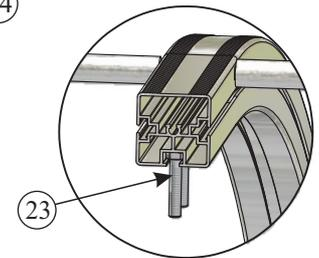
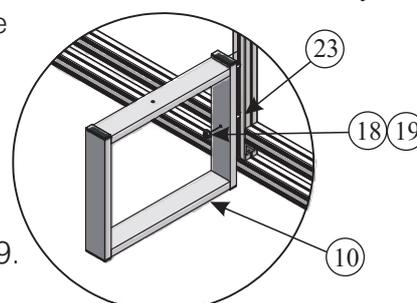

Figure 8.
Figure 9.
5.) The shelter now needs to be tilted into the upright position (Figure 8). The safest way to do this is to have one person support each sideframe whilst another supports the bent supports. Now the main structure is assembled the seat support frames (10) need to be fixed to the bent supports (3). This is done by sliding 2 x M8*40mm bolts (23) into the bolt track of the bent supports (Figure 8) and fixing the frames to the supports. Line up the bolts with the holes in the support frame then fit BOL715 (19) and BOL402 (18) (Figure 9). Put these on finger tight at first until the seats are positioned correctly as this will allow some movement needed to fix the seats.